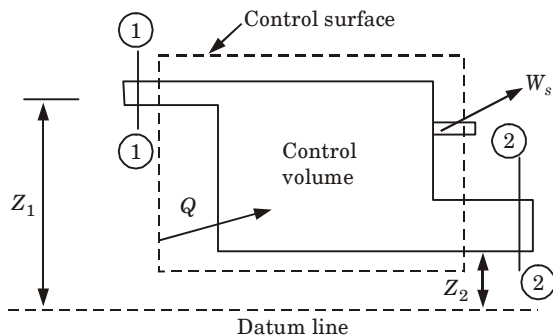

Fig. 1.
1. Let's consider the flow of a fluid through a control volume as shown in Fig. 1. In the time interval "*dt*", there occurs a flow (or flux) of mass and energy into the control volume.